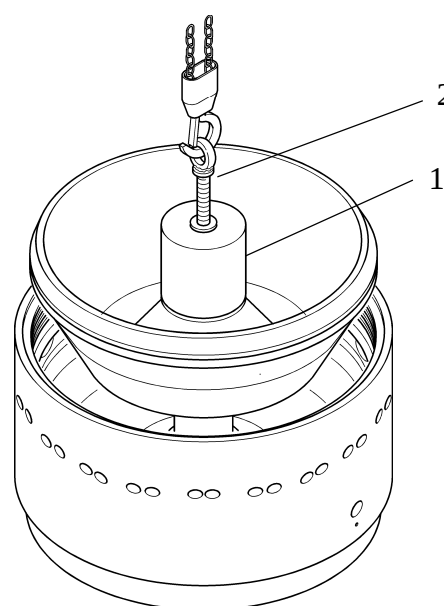

Figure 6.7
- Fasten spanner body (1) on the moving ram.
- Slightly screw threaded rod (2) until the threaded part length outside the spanner body is $4 \div 5$ mm.
- Lift the moving ram by hand or by hoist and place it down on the bowl body (fig. 6.7).
- 7) By the spanner (09.060.0 ÷ 09.070.0), screwed in the threaded hole present on the upper edge of the **distributor**, lift the piece and place it down on his seat (fig. 6.7). Check the guide pins of the bowl body correctly rest on the suitable seat of the distributor so that the whole piece is uniformly resting on the bowl body.